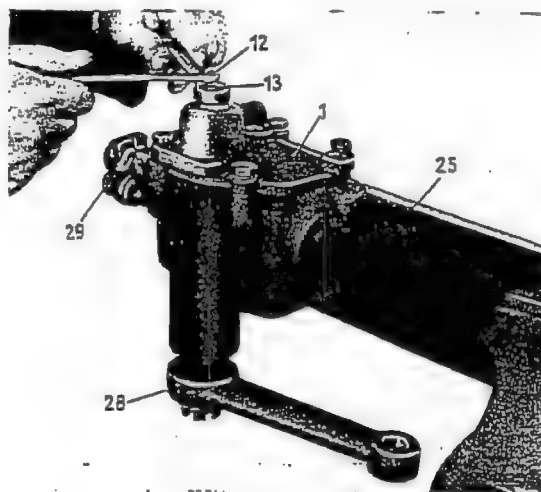

Fig. 46-4/4
- b) If the steering does not work properly, check the pressure sleeve (16) and the compression spring (17) of the pressure block assembly for the steering shaft (Fig. 46-4/3, for dimensions see Job No. 46-0).